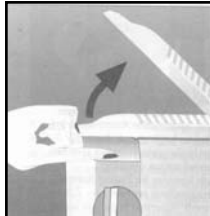

Fig. 1
- Open the lid by pressing up on the lid opening latch (#10). Fig. 1